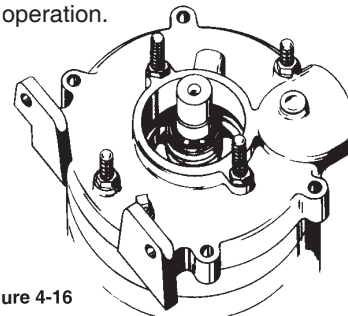

Figure 4-16
25. The seal rotating element can now be installed.(refer to figure 4-16) One and two stage pumps position both seals (#12) by a shoulder on the shaft. Three and